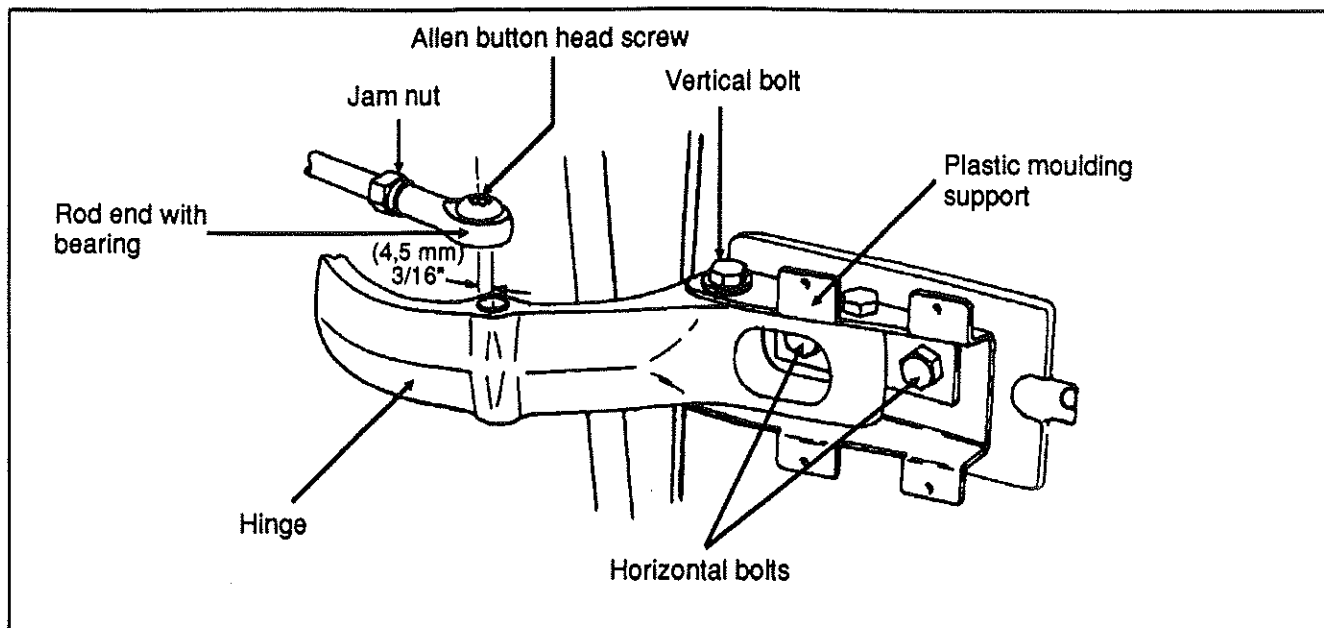

Fig. 1
2. Remove the Allen button head screw and the washer retaining the rod end with bearing to the upper hinge. See figure 1.
3. Remove the Allen button head screw and the washer retaining the rod end with bearing to the upper hinge. See figure 1.
3. Remove the Allen button head screw and the washer retaining the rod end with bearing to upper hinge. See figure 1.